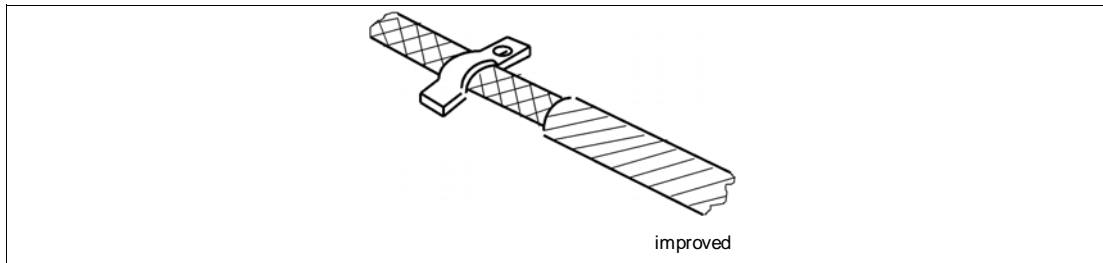

Figure 6 Improved Shielding
- Install a ferrite core around the cable as close to the unit as possible as illustrated in Figure 6.